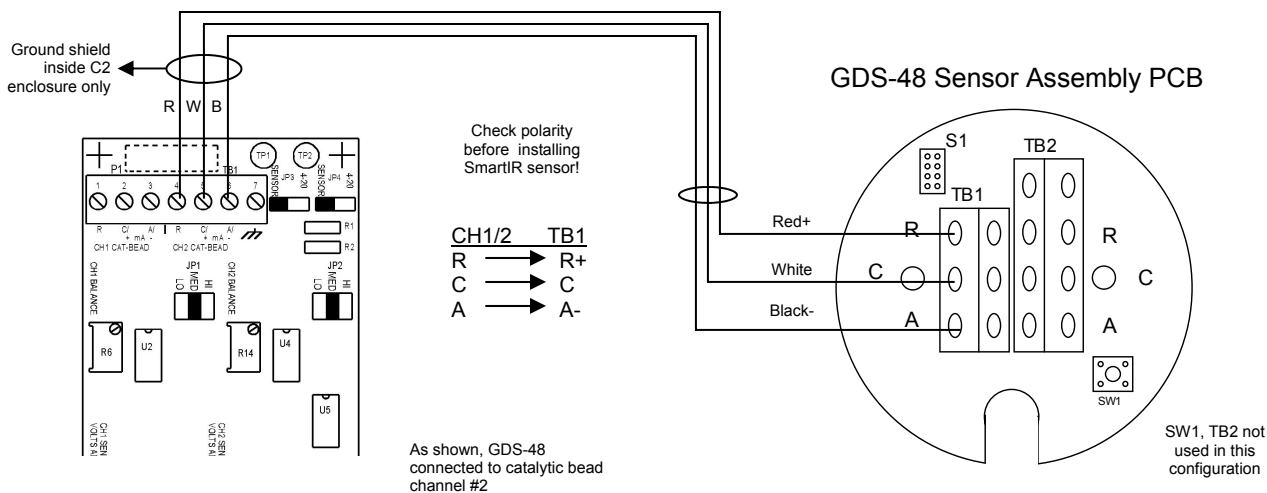

Fig 4. C2 Controller to GDS-48 Wiring Diagram for SmartIR
- 2) Connect the C2 to the remote sensor housing as shown in Fig. 4.